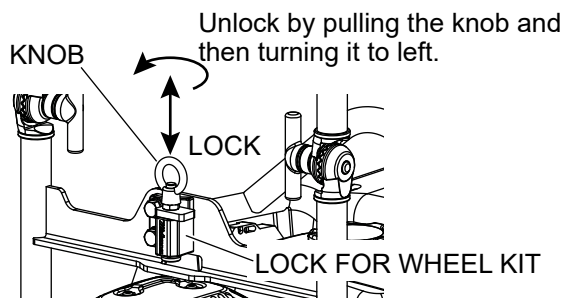

Figure 10. Wheel Kit Lock Check
1. Check the wheel kit lock to make sure it works (Figure 10).